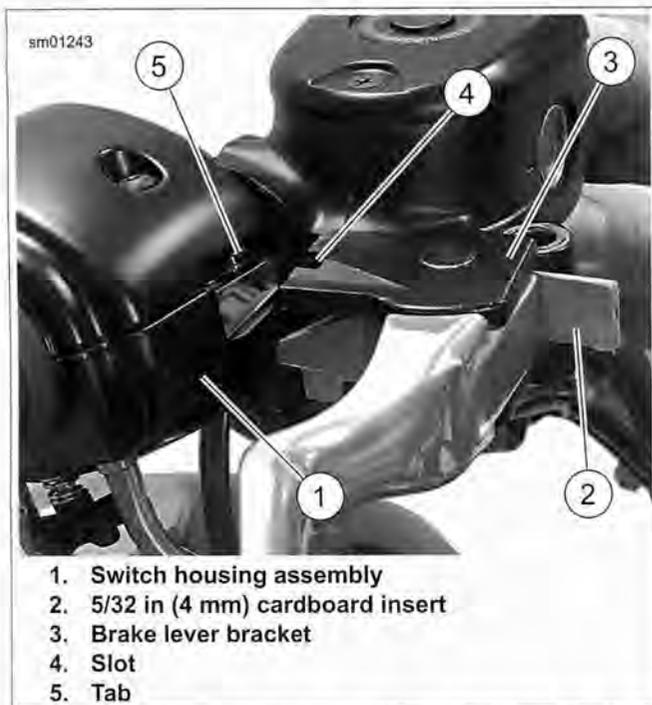

Figure 2-45. Fitting Brake Lever/Master Cylinder To Right Handlebar Switch Housing
1. See Figure 2-45. Position brake lever/master cylinder assembly inboard of switch housing assembly (1) engaging tab (5) on lower switch housing in slot (4) at top of brake lever bracket (3).